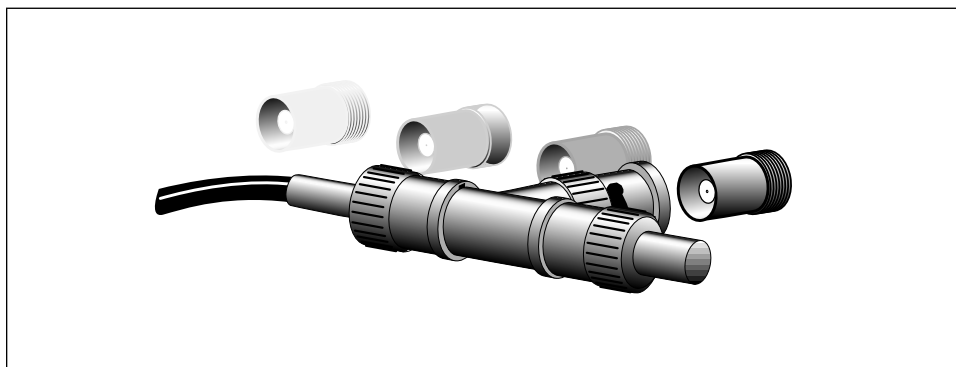

Figure 5: BNC-T Connector
**BNC-T Connections.** The AT-3004SL and AT-3008SL BNC ports have their own switchable 50  $\Omega$  termination located on the back panel next to each BNC port. See Figure 5. If installing with BNC-T connectors in the center of a segment then the ports internal termination must be disabled (OFF). The segments termination should then be placed at each end of that cable segment.